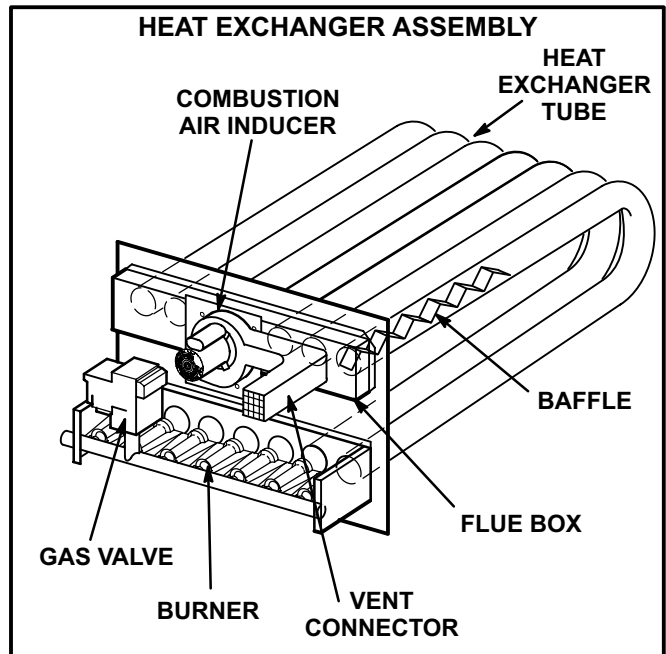

FIGURE 23
- 3- Remove and retain screws securing combustion air inducer to flue box. Remove and retain two screws from bracket supporting vent connector. See figure 23.